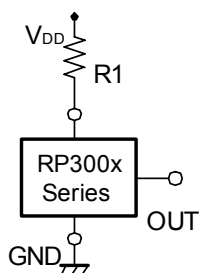

Figure 21.
- When using Nch open drain output products in circuits such as shown in Figure 21 and 22 with a large impedance ( $R1$ ) between the  $V_{DD}$  pin and  $V_{DD}$ , detector threshold level would shift by voltage dropdown caused by the supply current of the IC itself. Released voltage may also shift and delay time for start-up might be generated by this usage.
- If CMOS output products are used in circuits such as shown in Figure 21 and 22, output level could be unstable by shoot-through current which is generated at detector threshold level or at released voltage level, so please avoid this style of use.